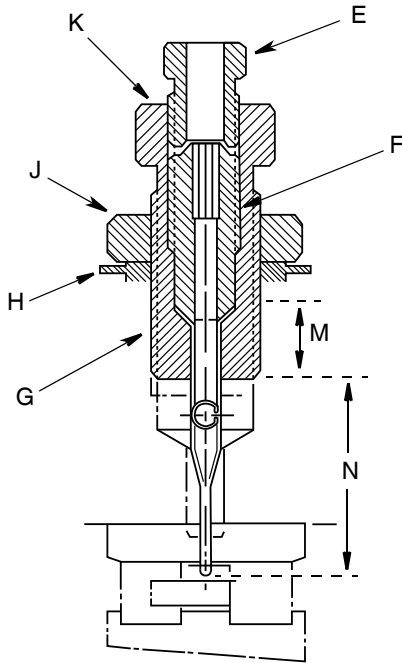

FIG. 3
- Determine the length of the nozzle tube required by reviewing machining head prints. This is dimension "N" shown on FIG. 3. Allow 0.625 inches (15.9 mm) extra length for flare and internal length on nozzle assemblies.
- Use a wrench to remove the flare nut (E).
- Use an allen wrench to remove the 0.125 inch internal hex fitting used to secure the oil nozzle retainer (F) to the body (G).
- Install the nozzle tube (N) in the body (G) and secure it in place with the oil nozzle retainer (F) (FIG. 3).